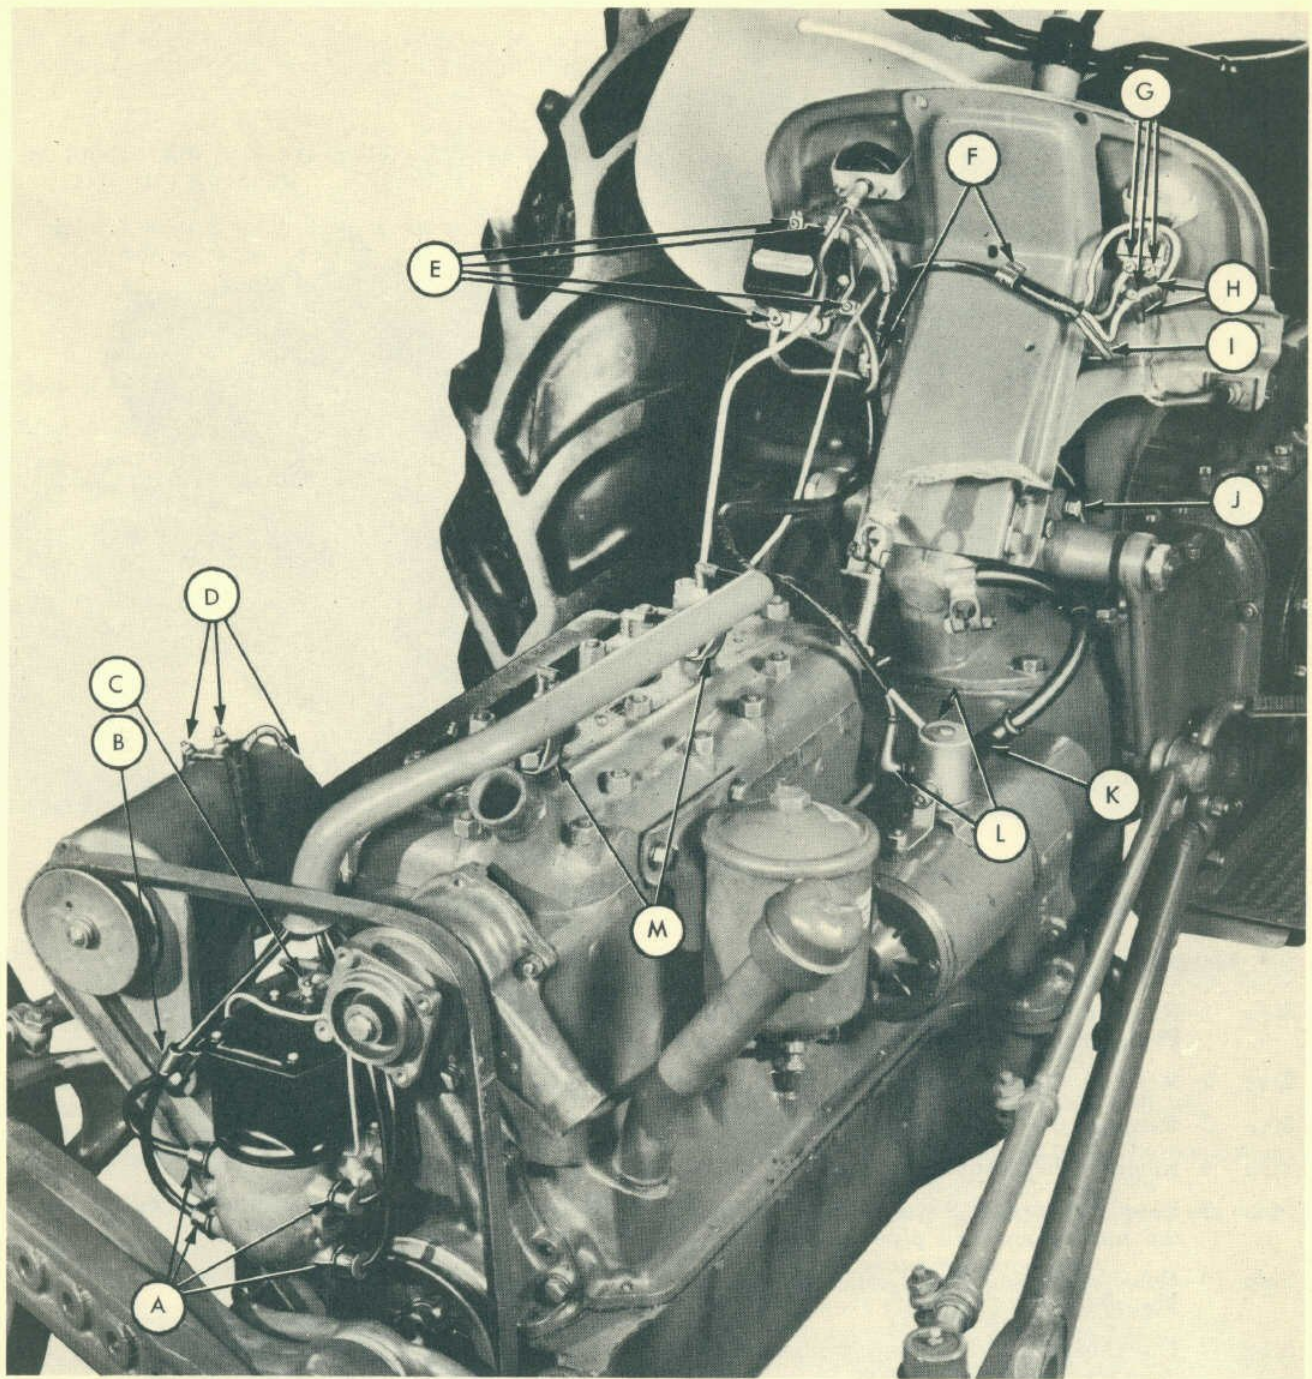

Fig. 6
- Step 1—Disconnect the four leads (A-Figure 6) from the distributor cap and unbolt clip (B-Figure 6) from the timing gear housing.
- Step 2—Disconnect the lead from the coil (C-Figure 6).
- Step 3—Disconnect the three leads (D-Figure 6) from the generator.
- Step 4—Disconnect the four spark plug leads and remove the two nuts (M-Figure 6) that hold the wiring conduit to the engine head.
- Step 5—Disconnect the two leads (L-Figure 6) from the starter relay and remove the battery cable (K-Figure 6).
- Step 6—Disconnect the four leads (E-Figure 6) from the voltage regulator.
- Step 7—Remove the cable from the clips (F-Figure 6).
- Step 8—Disconnect the three cable leads (G-Figure 6) from the resistor and the two starter switch leads (H-Figure 6).
- Step 9—Disconnect the lead (I-Figure 6) from the starter button and remove the clip (J-Figure 6) from the left steering sector shaft housing.